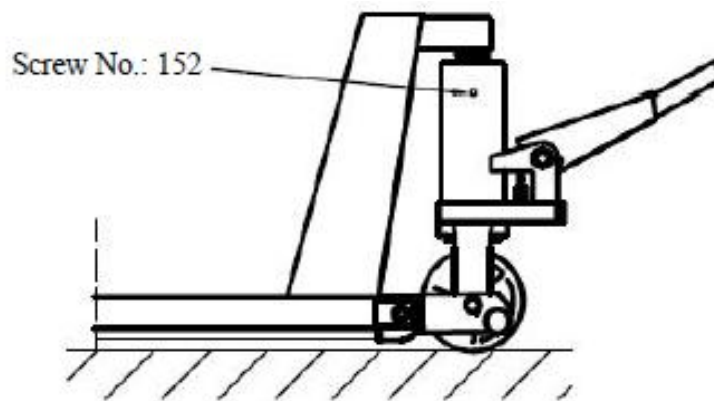

Figure 4
**When to add oil** – if the forks can't be pumped up to its rated highest position, you may have to add hydraulic oil into the oil tank (see Figure 4.). The hydraulic fluid to be used must have a quality of ISO VG22 or equivalence. Mixing of different fluids is prohibited!